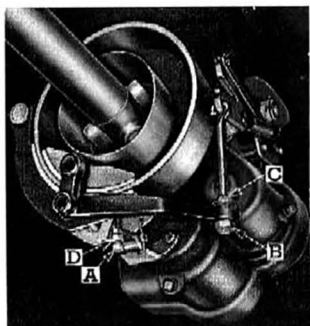

Fig. 57—Propeller Shaft Brake—
2. Loosen lock nut "D" and draw up adjusting bolt "A" (fig. 57) to secure clearance between outer shoe facing and brake drum of .010"-.015" measured at a point directly above bolt "A." Then hold bolt and tighten lock nut securely.